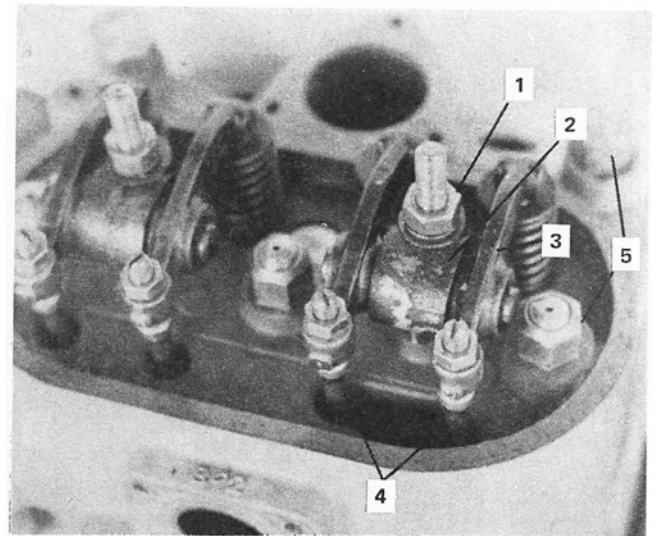

Figure 2
15. Loosen the center nut and remove the rocker arm assembly and push rods, Figure 2.